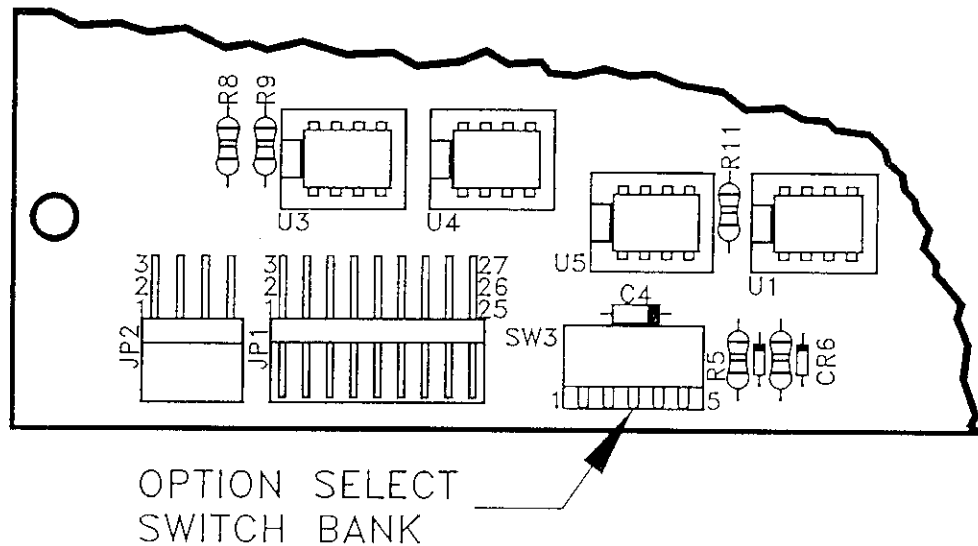

Figure 1 Option Select Switch Bank
1.16 The installer shall mount the jackbox in a suitable location (usually under the console writing surface). To connect this jackbox (see drawing 830652-00205 Fig. 1) to a telephone panel used with a radio system, use the 6-wire modular to modular cord furnished, and plug this cord into the rear panel JACKBOX modular jack.
**1.27 DESK-TOP ONLY:** The auxiliary port, AUX (PTT) is located at the rear panel, which allows for headset and push-to-talk operations. This port is optioned-controlled by a five-position switch bank (SW3), (only switch positions 1-4 are used), located on the Orator board inside the console. AUX (PTT) port options are accessed by removing the left-end cap of the console. Options are selected by switch positions 1-4 of SW3. Refer to Figure 1 and Table B.